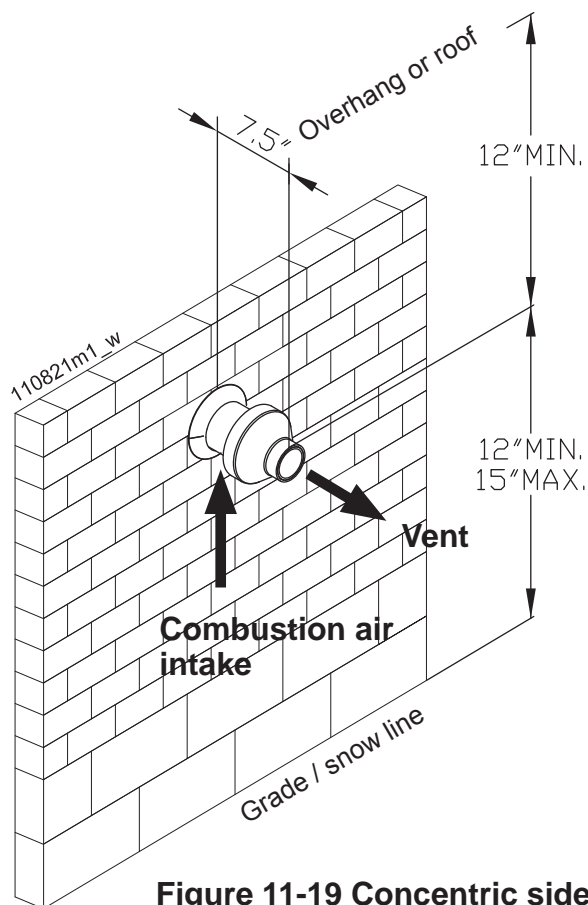

Figure 11-19 Concentric sidewall termination clearances
The termination kit must terminate outside the structure and must be installed as shown in Figure 11-19.
1. Determine the best location for the termination kit (see Figures 11-19 and 11-20).
4. Cut one (1) hole 5 inch diameter into the structure to install the termination kit.
NOTICE! Ensure termination location clearance dimensions are as shown in Figures 11-19 and 11-20.